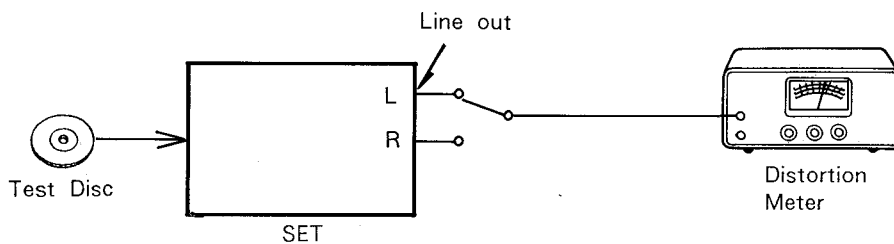

Figure 31
- (1) After Connecting the set as shown in Figure 31 and switching the power on, load a disc and set the unit to play mode.
- (2) Adjust VR4101 for the distortion value to show minimum.